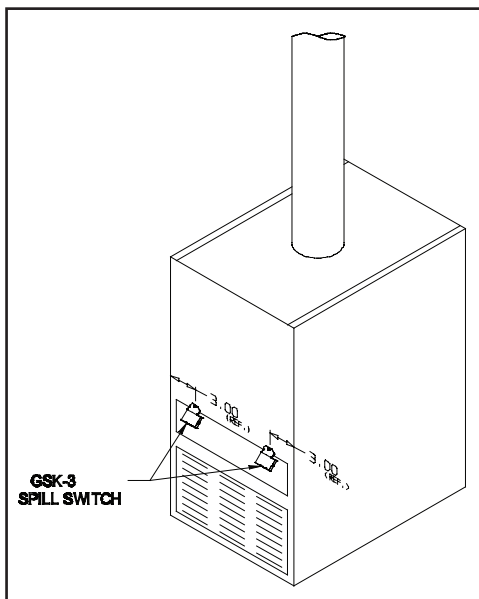

Figure 3
### BUILT-IN DRAFT HOOD (See Figures 3 & 4)
1. Two (2) switches are recommended on appliances without a factory supplied spill switch. Mount the switches approximately 3" from the side of the draft hood opening and the second switch (if used) 3" from the opposite side of the draft hood. (See Figure 3) If the appliance has a factory built-in switch, mount a single switch 3" from the side opposite the factory switch.